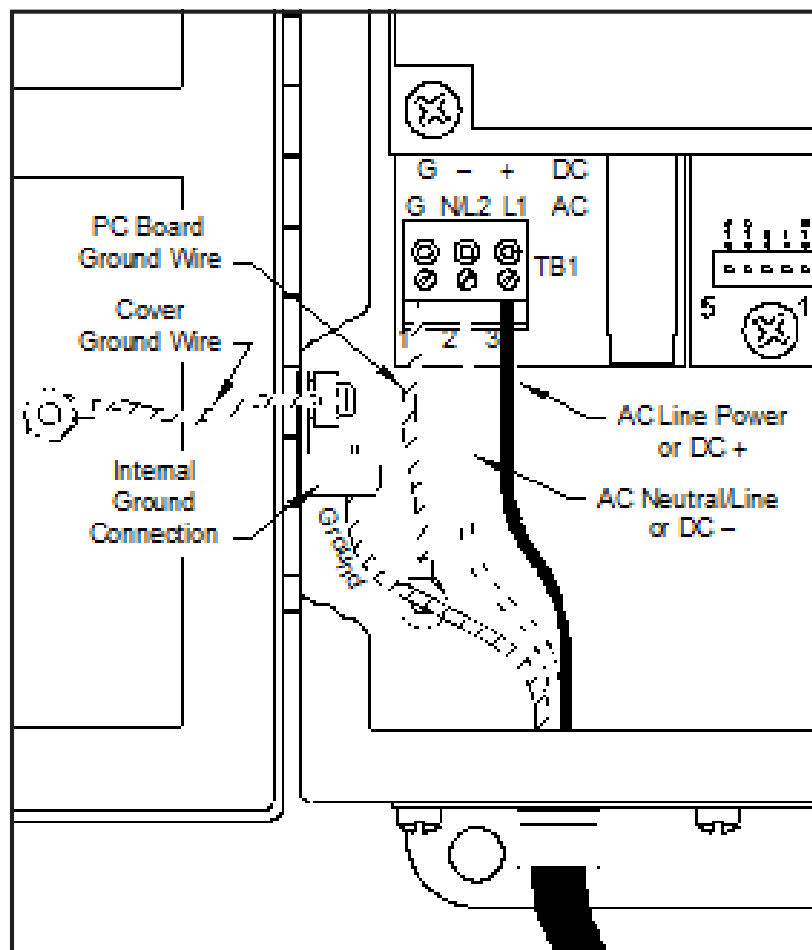

Figure 3: Wiring the Line Power
Refer to Figure 3 on page 6 or Figure 10 on page 16 to locate terminal block TB1 and connect the line power as follows:
3. Connect the ground lead to the internal ground connection located on the side panel of the enclosure (see Figure 3).
4. Connect the neutral or line lead (or the negative – DC power lead) to TB1-2 and the line power lead (or the positive + DC power lead) to TB1-3 as shown in Figure 3.